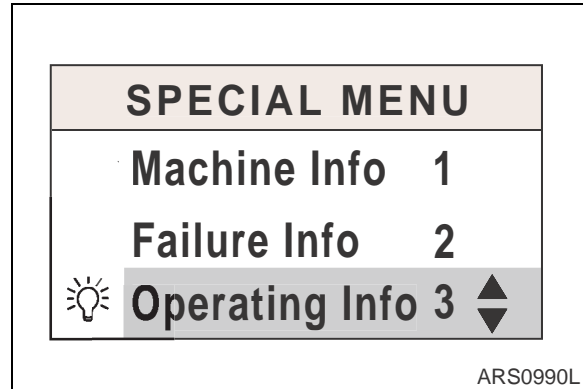
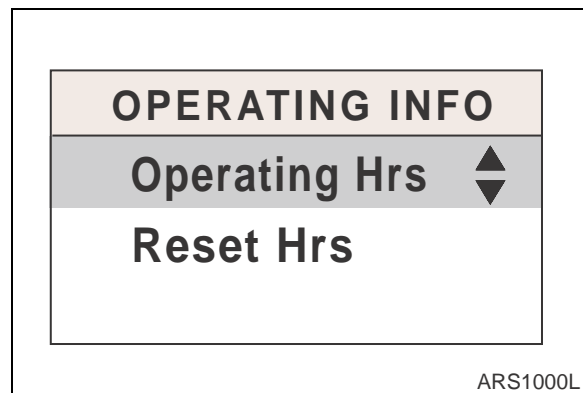

Figure 37
Figure 38
- A. **Entering Sub-menus:** When a cursor is located in "Operating Info" of special menu screen (Figure 37) press enter button (↵, 3 on Figure 18) and "Operating Info" screen will be displayed (Figure 38).
- B. **Information screen of machine operation** (Figure 38).